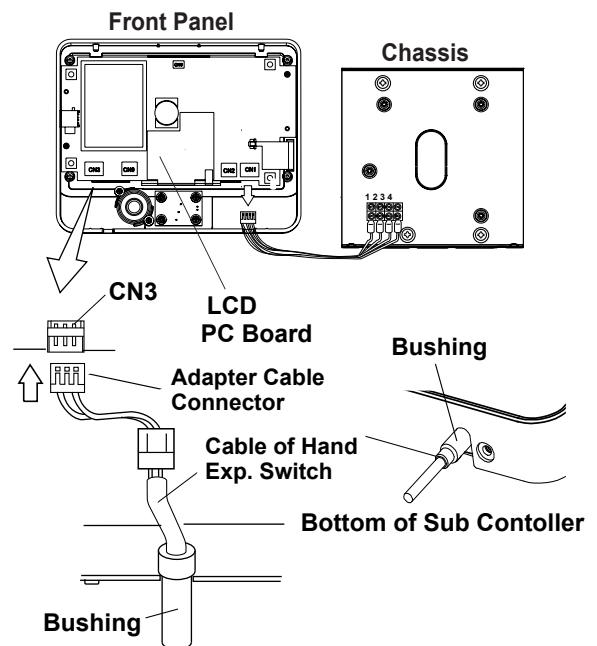

Fig.3-24 Connecting Hand Exposure Switch
4. Connect the connector at the end of adapter cable (red wires) to CN3 connector on the LCD PC board. (Fig.3-24)
5. Insert the bushing of coil cord into the slot at the bottom of the chassis, reattach the front cover and secure it with one of original screws (M3 x 8mm) at the opposite side of hand switch cord. (Fig.3-24)